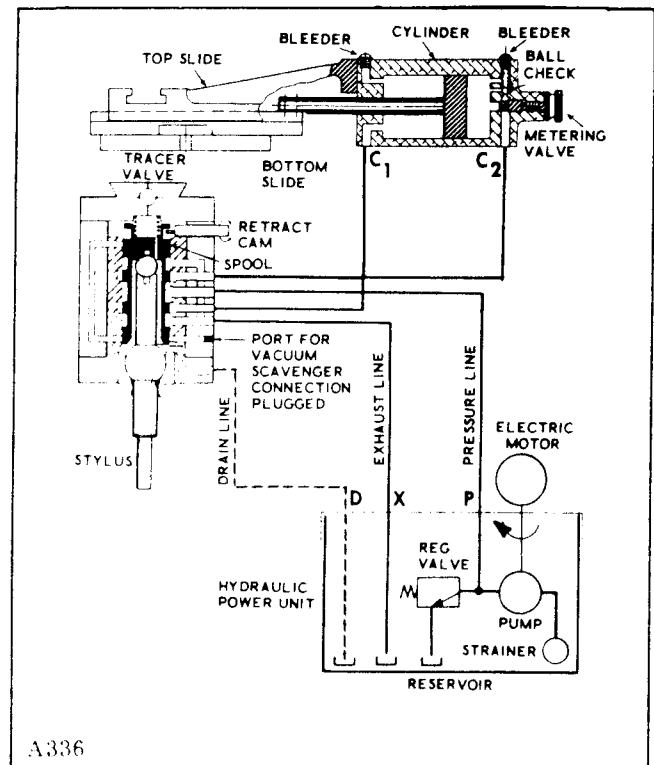

Figure 3-1. Hydraulic Schematic Diagram
a. A stylus inserted in the tracer valve spindle contacts the outer surface of the template. As the lathe carriage moves, it pulls the stylus along the surface of the template. The stylus controls the movement of a spool in the tracer valve (see figure 3-1). This spool functions as a valve gate. When the spool is in its raised position, hydraulic pressure is applied to port C2 of the cylinder. When the spool is in its lowered position, hydraulic pressure is applied to port C1 of the cylinder. When the spool is in its null position, hydraulic pressure is locked in a static condition between the valve and cylinder.